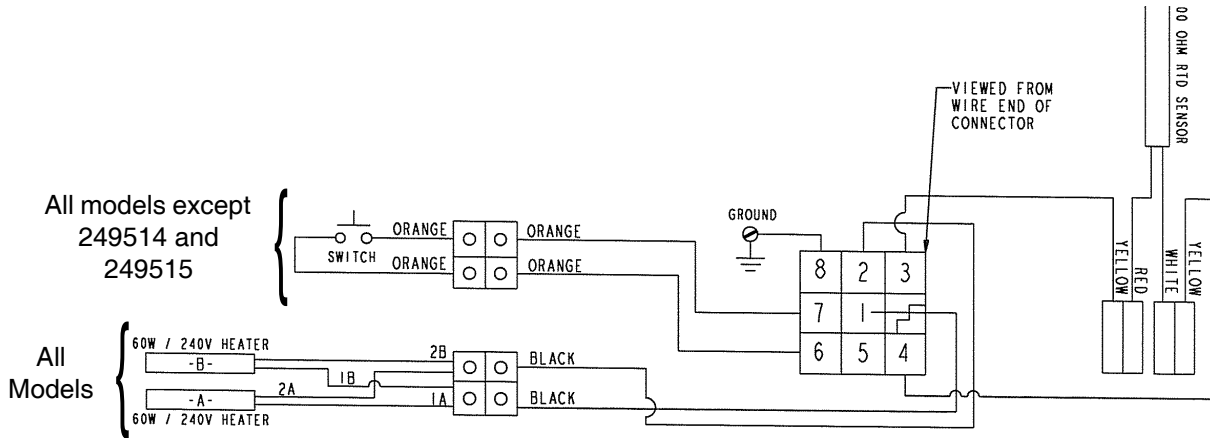

FIG. 13: 8 Pin, 240 Volt Shown
6. See FIG. 13. Use an ohm meter to check: